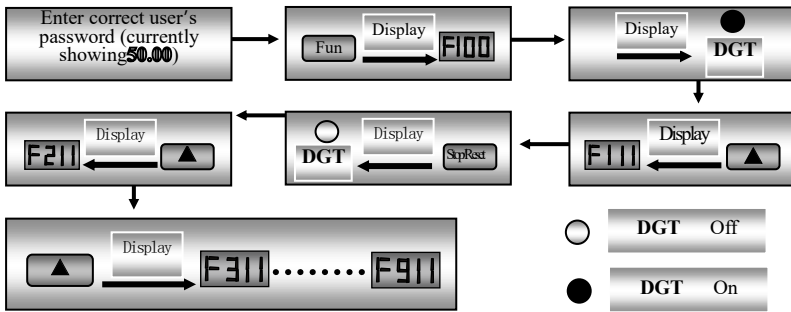

Fig 3-7 Switch over in a Code Group or between Different Code-Groups
e.g. when function code shows F111 and DGT indicator is on, press “ / ” key, function code will keep increasing or decreasing within F100~F160; press “stop/reset” key again, DGT indicator will be off. When pressing “ / ” key, function codes will change circularly among the 11 code-groups, like F211, F311...FA11, F111..., Refer to Fig 3-7 (The Flashing “50.00” is indicated the corresponding target frequency values).